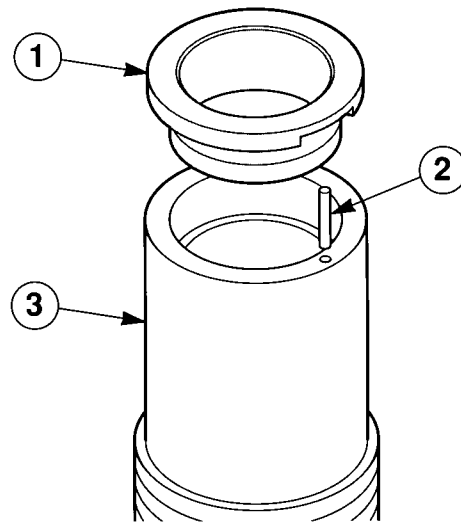

Figure 52 — Replacing thrust sleeve. (1) Thrust Sleeve, (2) Pin, (3) Spindle.
1. **Replace thrust sleeves if necessary.** Remove worn sleeves by prying out with a screwdriver (Figure 52). Replace pins if they are damaged or worn and tap in new sleeves.